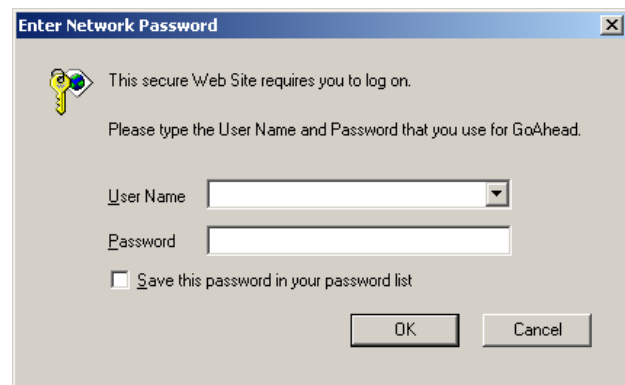

figure 28.9: Logon window
- 4 Go to the bottom of the page and click the *Continue* hyperlink to access the web interface. A screen similar to the one in figure 28.9 pops up.